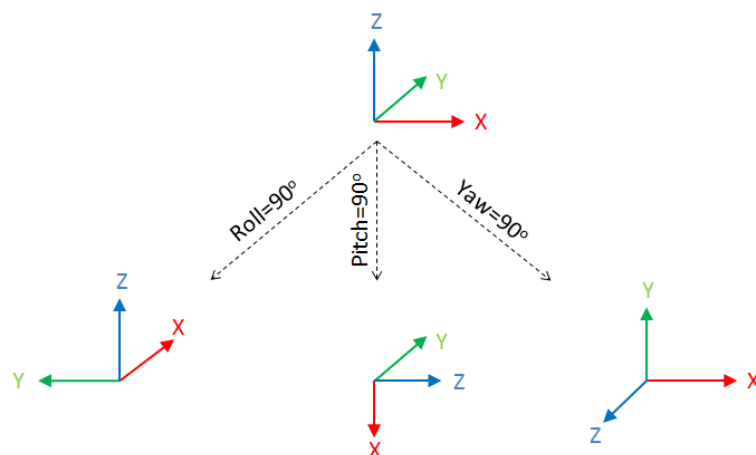

Figure 3: Three examples of single roll, pitch, yaw rotations.
IRBCAM uses the roll (RZ), pitch (RY) and yaw (RX) angles for describing rotations. Figure 3 illustrates three examples of single roll, pitch, yaw rotations, each  $90^\circ$ . The positive direction of rotation is given by the right-hand rule. Place the thumb in the axis direction - the positive rotational direction is then given by the remaining fingers.